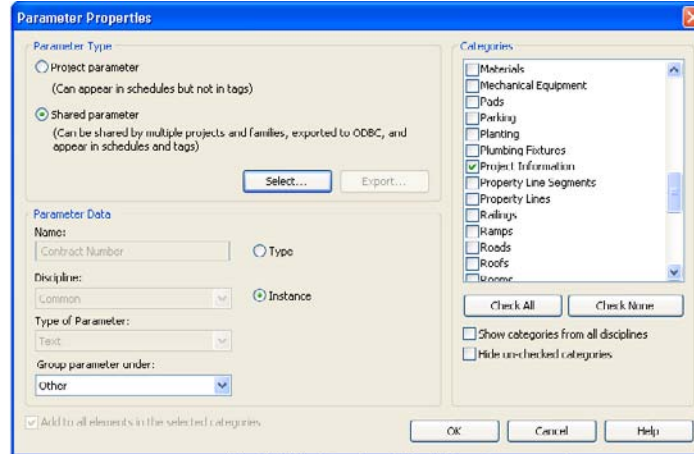

Figure 14.10
5. Click the Add button. This will open the Parameter Properties dialog box (Figure 14.10) where you can define project parameters that are specific to the project.